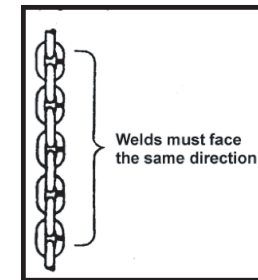

FIG 4
2. Check that the chain is not twisted at the bottom hook. All welds should face the same direction FIG 4.